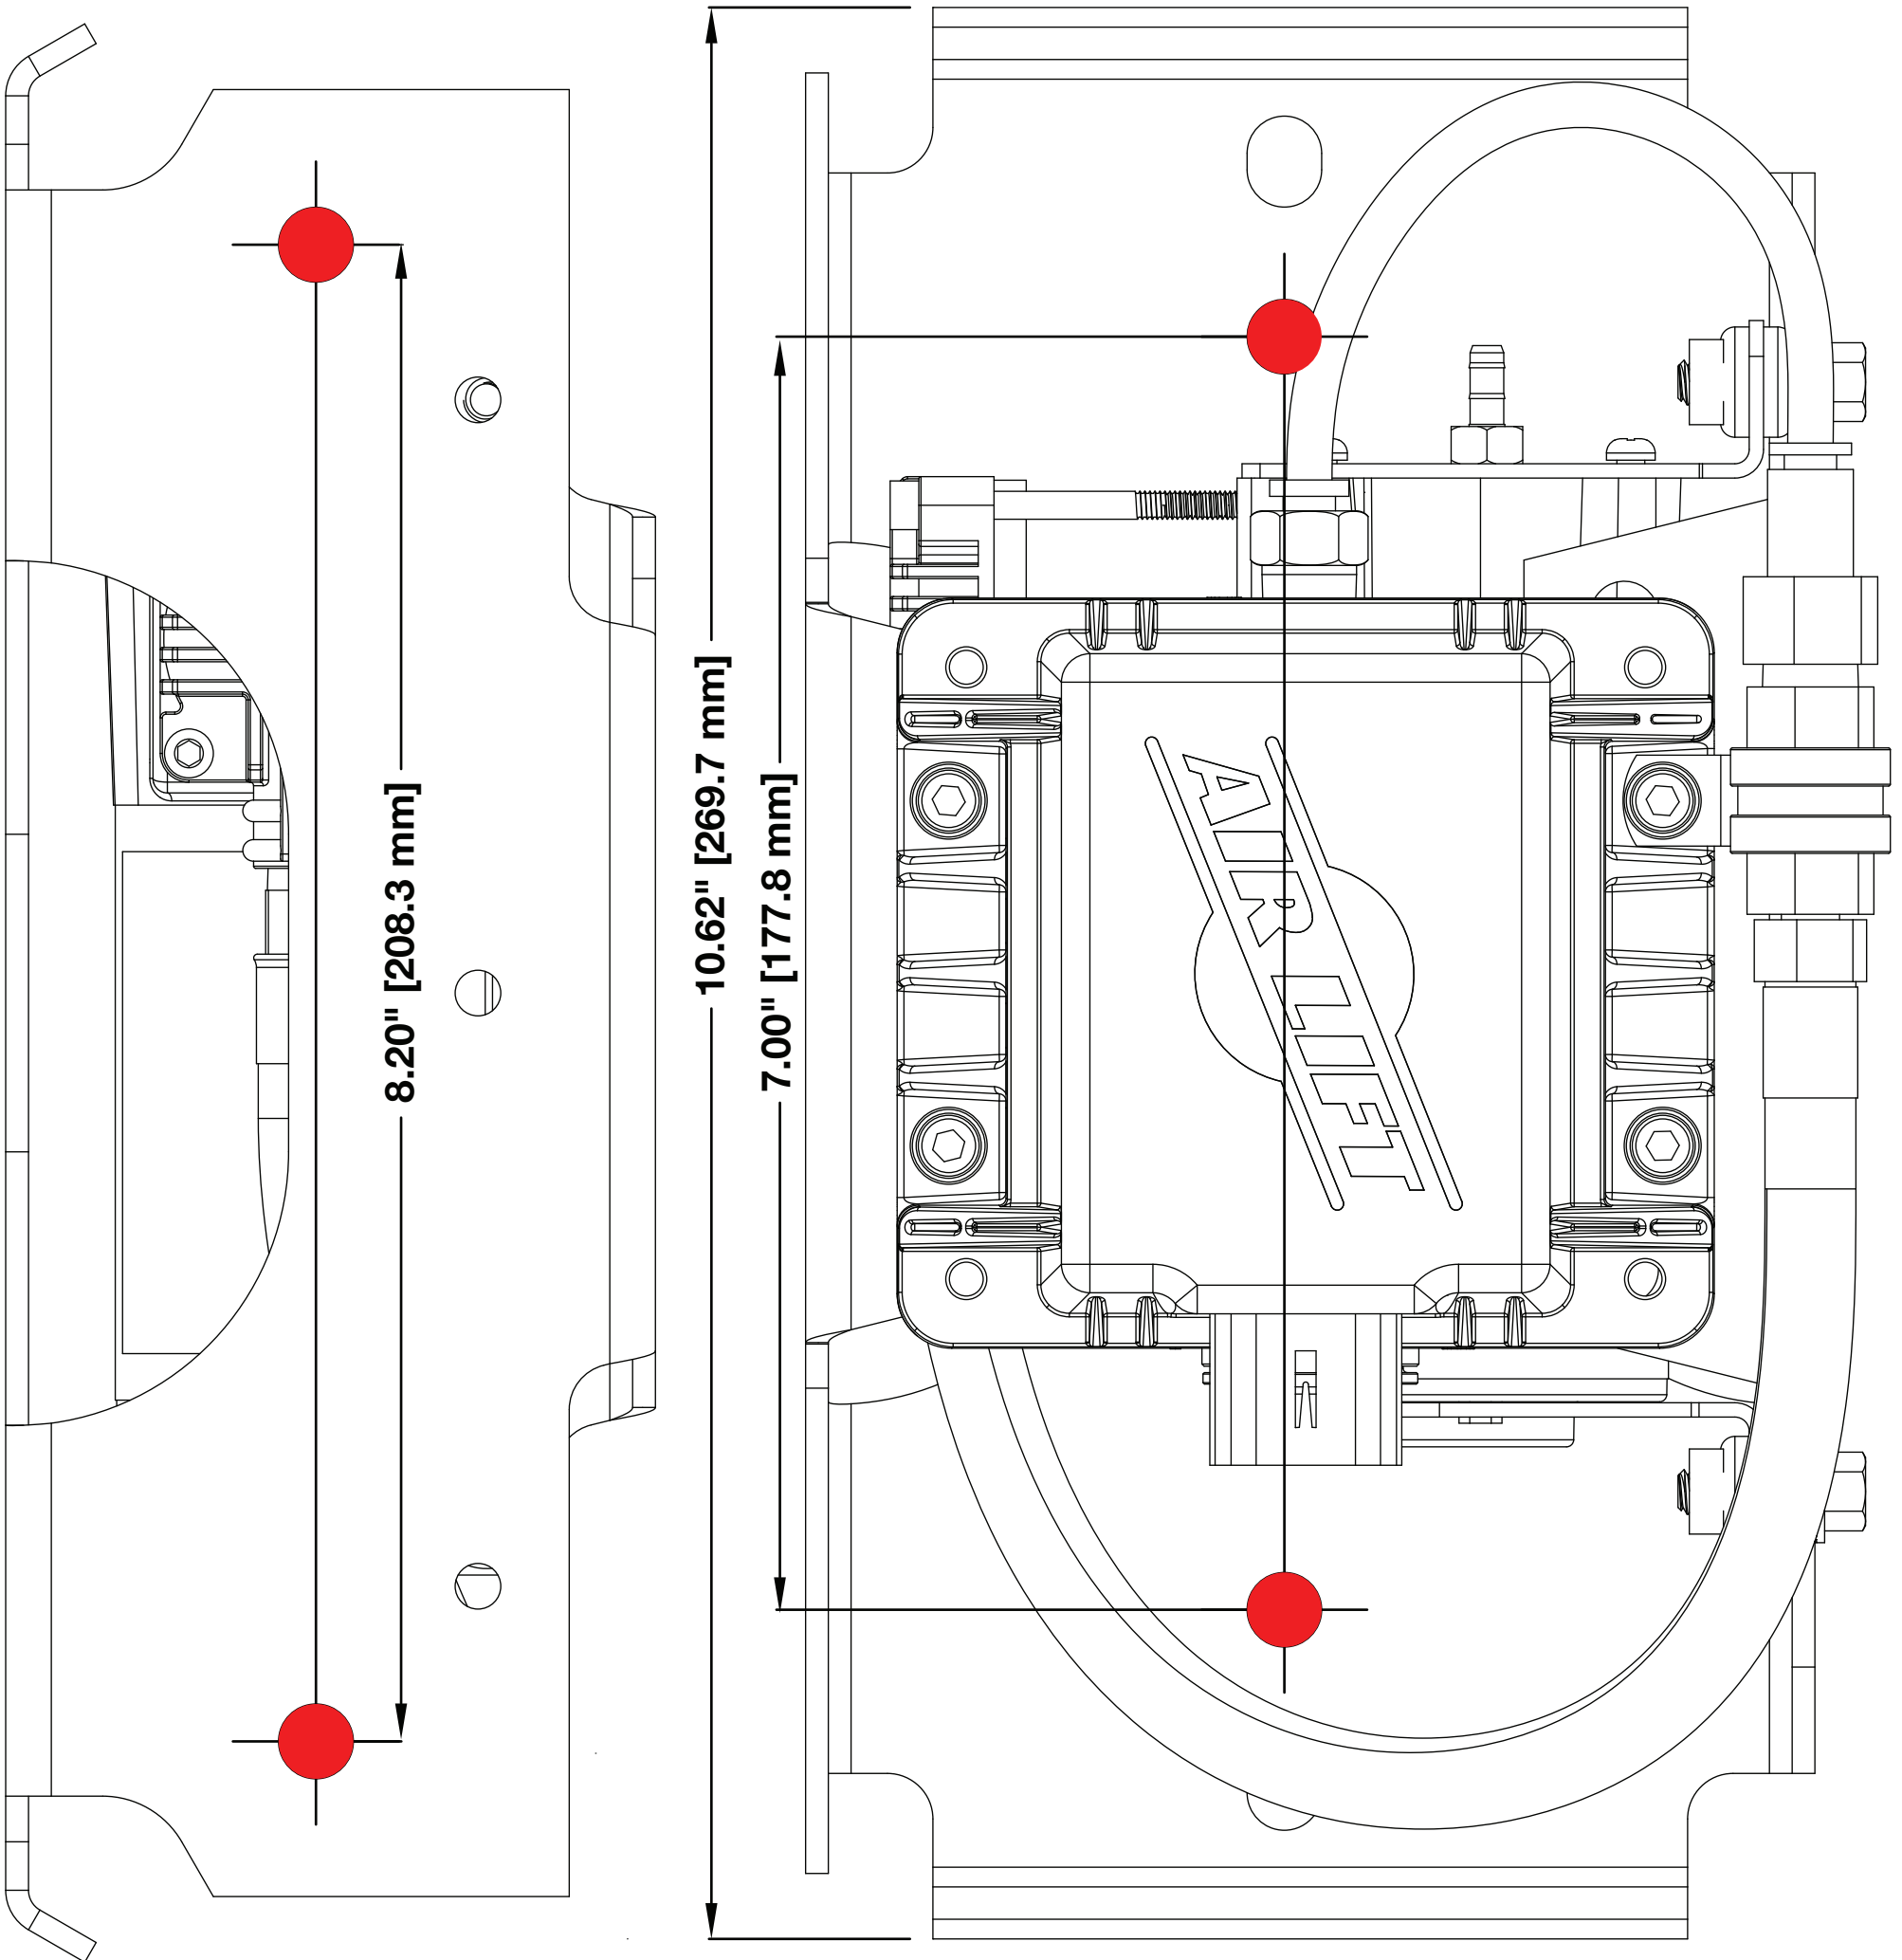

fig. 7
2. EZ Mount can be mounted in any orientation except with the logo upside down or the logo facing the ground (Fig. 1). There are mounting holes in the side of the bracket and in the top. Use the included template (Fig. 7) for mounting with self-tapping screws or hex cap bolts. Use a 1/4" drill bit to make pilot holes if using self-tapping screws.